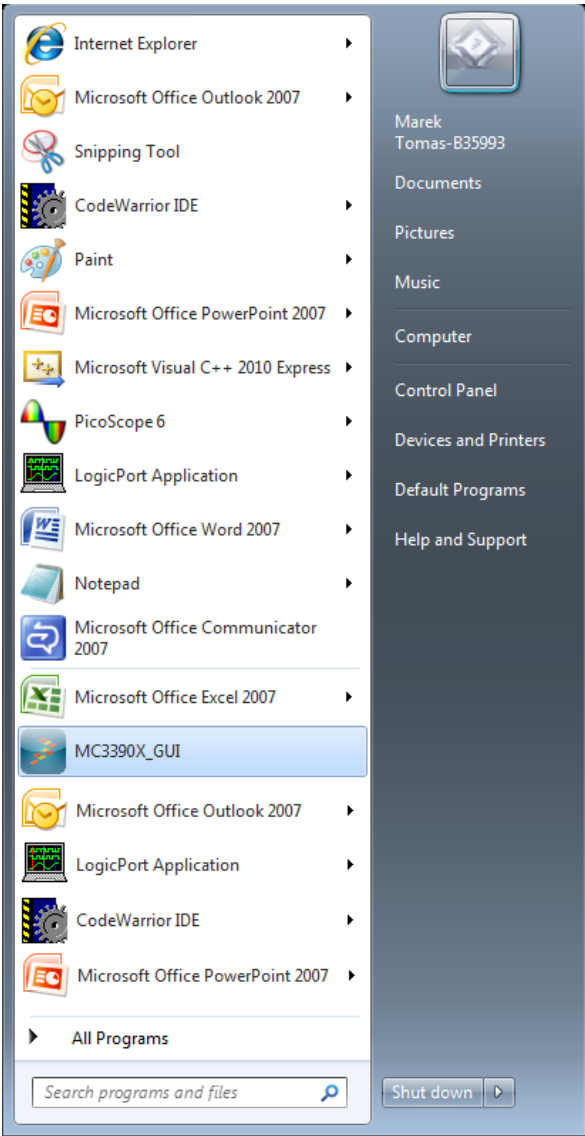

Figure 10. Launching MC33907_8 GUI application
1. To launch the MC33907_8 GUI application, select the application icon from the Freescale folder in the Start menu as it is shown in Figure 10.